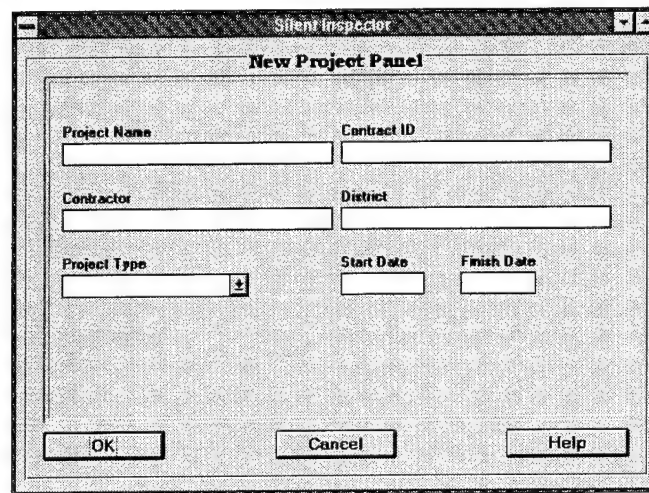

Figure 10. **New Project Panel** screen
- Click on **Add** under the **Project** menu, and the **New Project Panel** screen will appear (Figure 10).
One item of information contained on the **Project Panel** screens is the Corps of Engineers District for which the work is being performed. To allow the user to select the appropriate District from a list of District names using the pull-down button to the right of this box (not shown on Figures 10 and 11, but will be added in near future), **Setup** provides for entry of all desired District names into a file which interacts with the **Project Panel** screens.